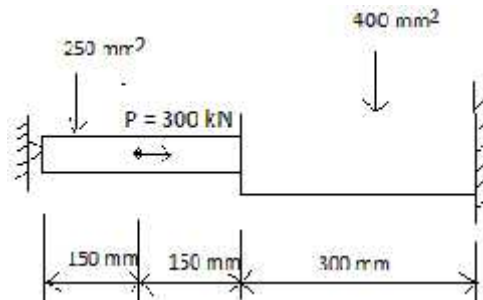

Fig. 2
2. Consider the bar loaded as shown in the Fig.2. Determine the nodal displacements, element stresses, and support reactions. $E = 200 \text{ GPa}$.